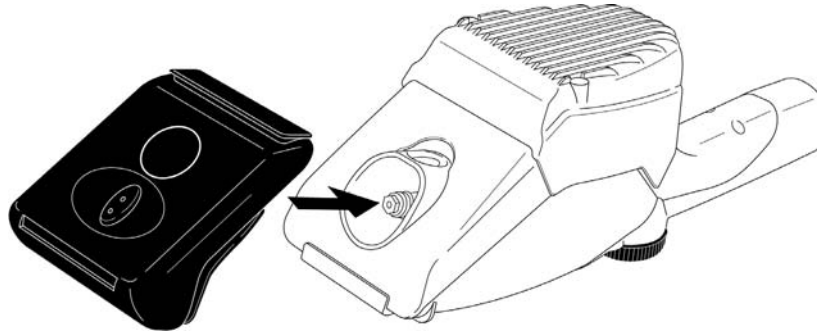

FIGURE 7
1. Align Fabric Steamer with main unit steam nozzle as shown (FIGURE 7), so that release button on attachment aligns with hole on steam nozzle.